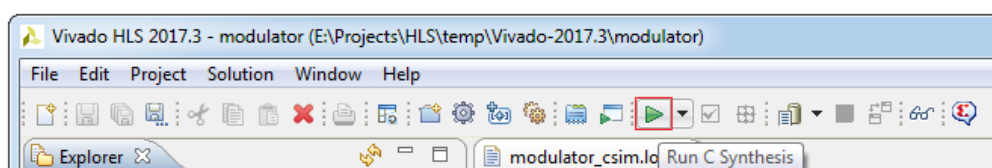

Figure 2.20: Run C Synthesis button
1. Click the **Run C Synthesis** toolbar button (Figure 2.20) or use the **Solution -> Run C Synthesis -> Active Solution** option from the main Vivado HLS menu to synthesize the design to an RTL implementation.